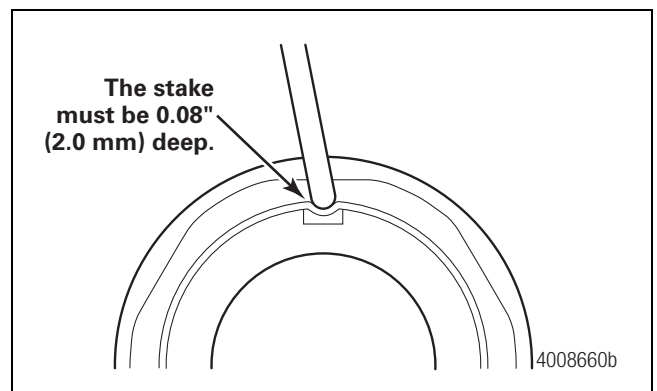

Figure 12.12
- G. Stake the nut by deforming the flange into the channel on the spindle at two locations 180 degrees apart. The stake must be 0.08-inch (2.0 mm) deep. Figure 12.12.